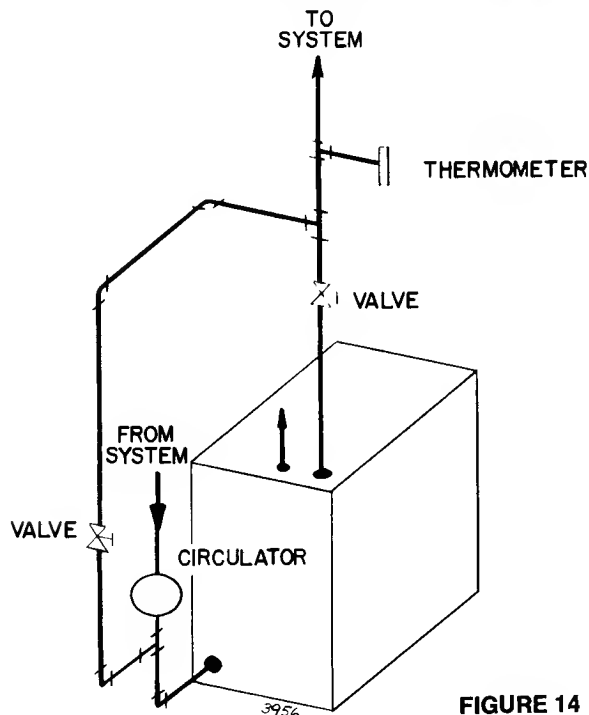

FIGURE 14
1. To protect system radiant panels, plaster, etc. from high temperature water supplied from boiler, see Figure 14.